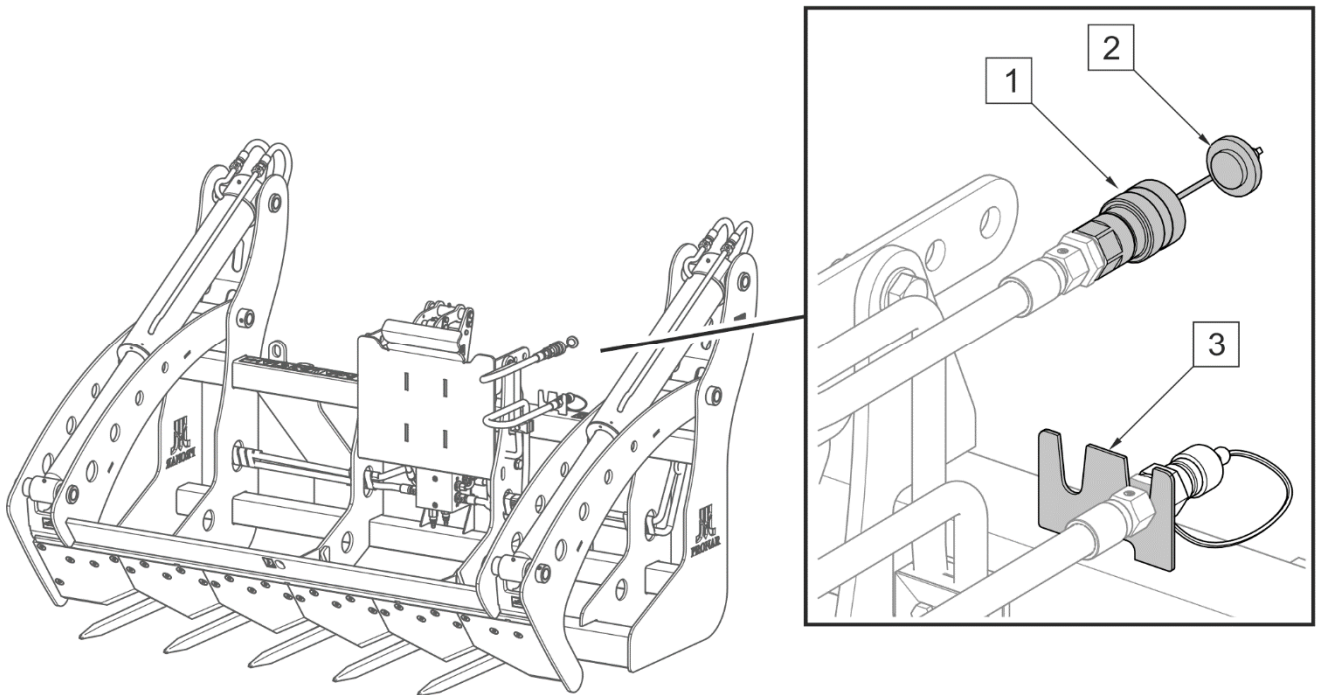

FIGURE 4.4 Protection of hydraulic quick couplers
- disconnect hydraulic conduits of the implement from the front loader's system, protect them with plugs and put in a special bracket (FIGURE 4.4);